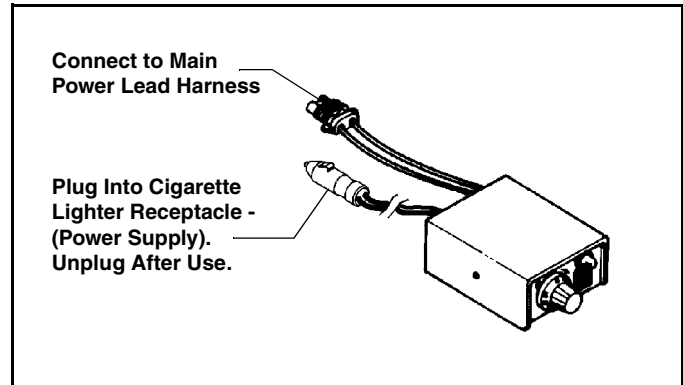

Figure 2-8
- 18b. For the in-cab-power-supplied Variable Speed Control, first plug in the main power lead harness to the control, and then plug in the cigarette lighter lead into a power supply (cigarette lighter receptacle) in the vehicle. When the spreader control is not in use, unplug the cigarette lighter lead from the power supply. (See Figure 2-8)